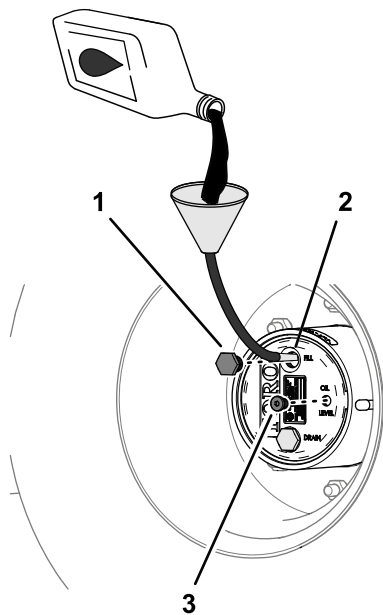

Figure 85
4. If the oil level is low, remove the fill plug and add the specified oil until it begins to flow out of the hole for the check-plug (Figure 85).
6. Install the fill plug and the check plug (Figure 85).
1. Through the fill-plug hole, slowly add the specified gear lube; refer to Figure 85 in Checking the Planetary-Gear-Drive Lubricant (page 64).
3. Install the fill plug and oil level plug; refer to Figure 85 in Checking the Planetary-Gear-Drive Lubricant (page 64).